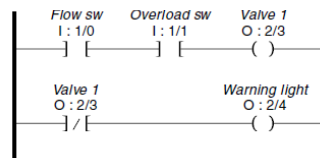

Figure 9.15
- For example, in the top rung of Figure 9.15, the address of *Flow sw* is given as I : 1/0.
- The second NO instruction *Overload sw* on the first rung (Figure 9.15) represents a switch wired to terminal 1 of the same input module used by *Flow sw*.